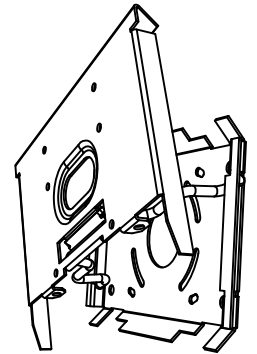

FIGURE 7
8. HOOK EACH FIXTURE MOUNTING ARM PIN INTO THE LONG SLOTS ON THE MOUNTING WALL PLATE. ALLOW THE FIXTURE TO HANG OFF THE ARMS WHILE COMPLETING THE WIRE CONNECTIONS PER NATIONAL ELECTRIC CODE. SEE FIGURE 7 BELOW.